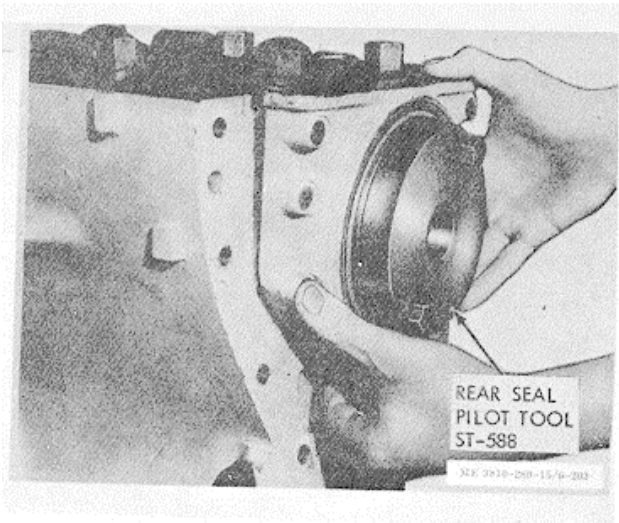

Figure 3-195. Rear cover installation.
(7) Position a new cover-to-cylinder block gasket onto cylinder block with gasket adhesive.
(8) Attach ST-558 seal tool assembly (fig. 3-195) to crankshaft; slide rear cover and seal assembly into position over tool.